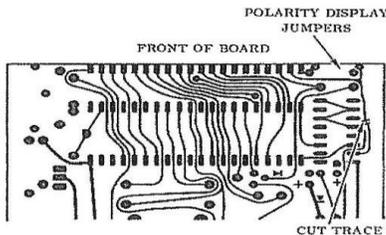
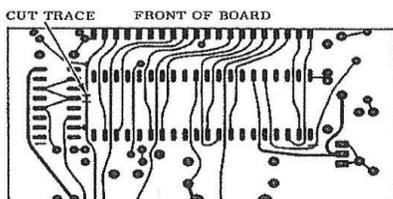

Figure 5. Printed Circuit Top View
Figure 6. Printed Circuit Bottom View
**Polarity Display:** The polarity may be blanked by cutting two PC traces and adding two jumpers on the PC board. Figure 5 shows the locations of the two jumpers and one of the traces to be cut. Figure 6 shows the other trace to be cut. The traces to be cut contain two parallel lines about one sixteenth inch long. For instructions on removing the meter from the case, refer to the paragraph on Range Modification.